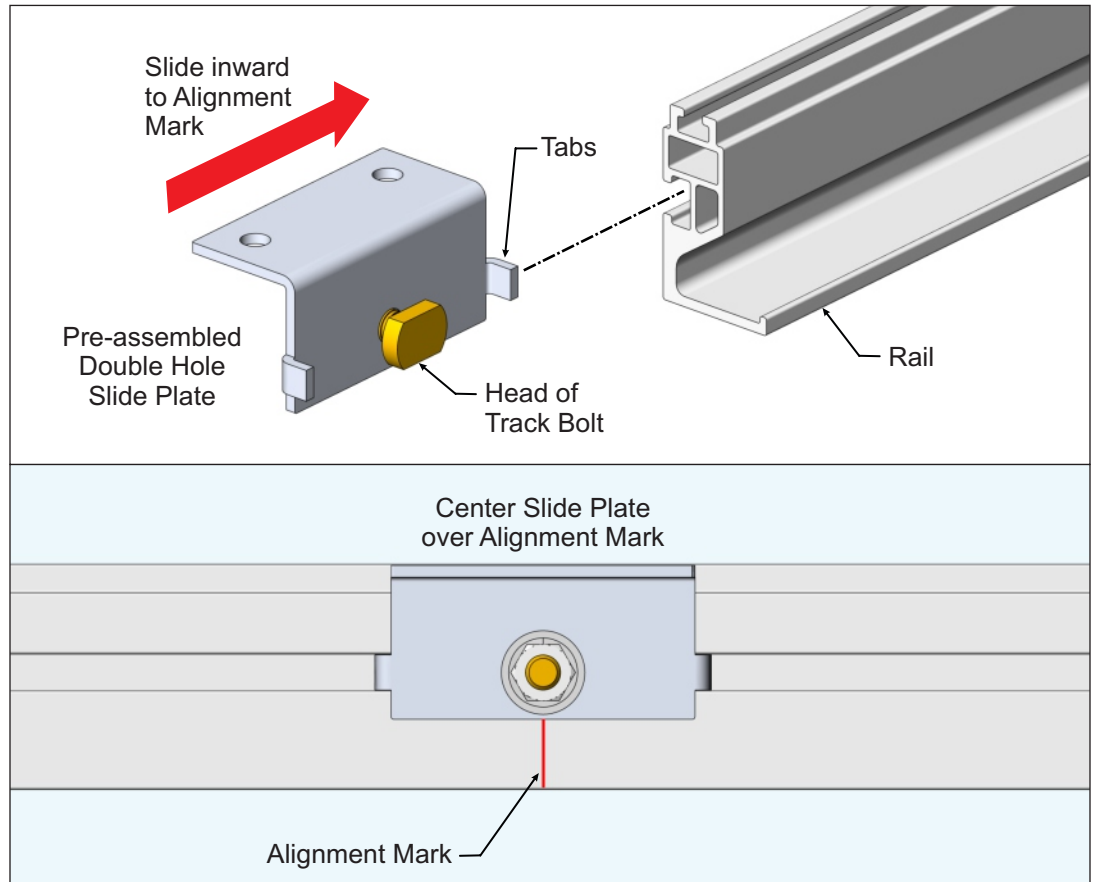

Figure 4-2: Installing and Aligning a Double Hole Slide Plate
- B** Insert factor B from Figure 4-2 (Module edge to Module mounting hole).
- D** Insert factor D from Figure 4-2 (Distance between Module mounting holes).
- A. Align the tabs of the Double Hole Slide Plate and the head of the Track Bolt with the channel of the Rail, and slide toward alignment mark. (See Figure 4-2)
- A. As done previously, align the Slide Plate tabs and the head of the Track Bolt with the channel of the Rail, slide inward. Hand tighten to keep them from sliding off of the Rail during handling. (See Figure 4-2)